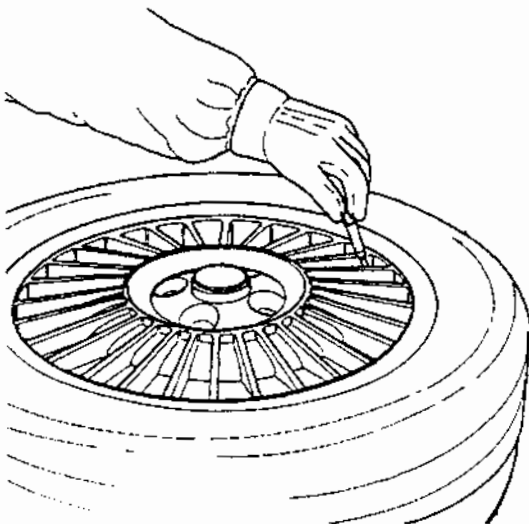

Fig.11
A. Remove all wheel-weights from the rim. Remove the valve stem or valve stem core and deflate the tire (Fig.11).